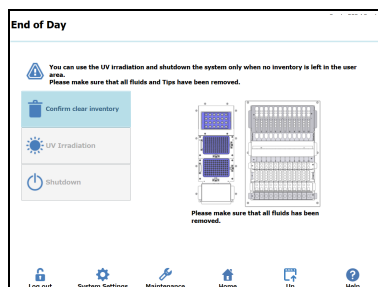

Figure 18: End of Day screen
24. On the Home screen, select “End of Day”. The following screen is shown (Figure 18).